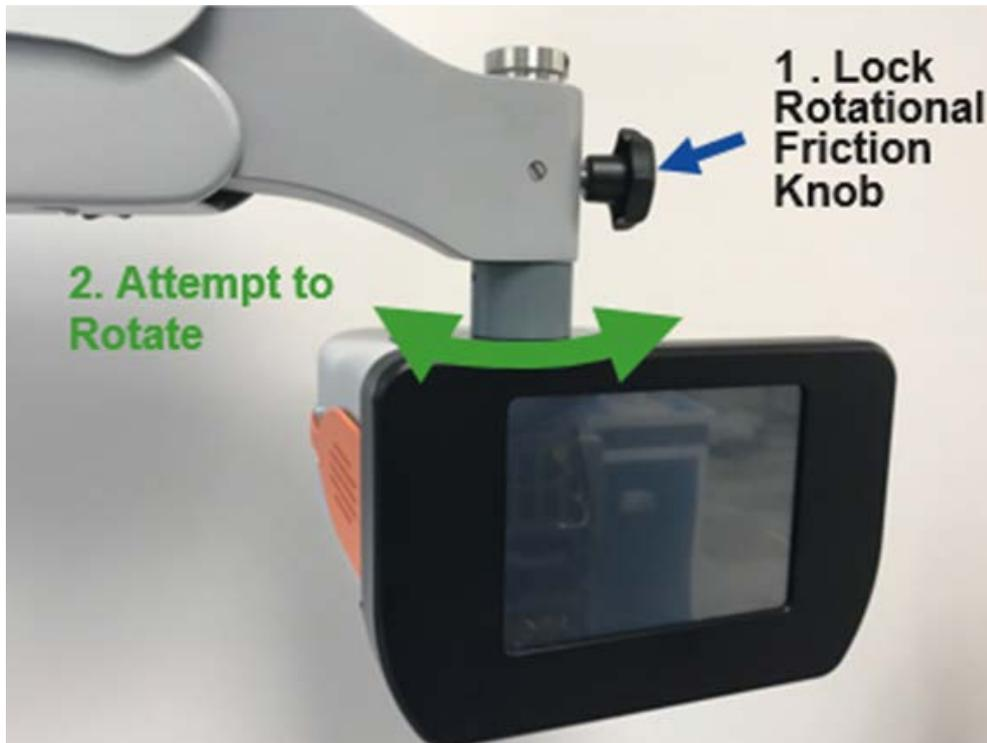

Figure 1: Functional Inspection Instructions
- Attempt to rotate the Optical Head and Libero assembly (see Figure 1).